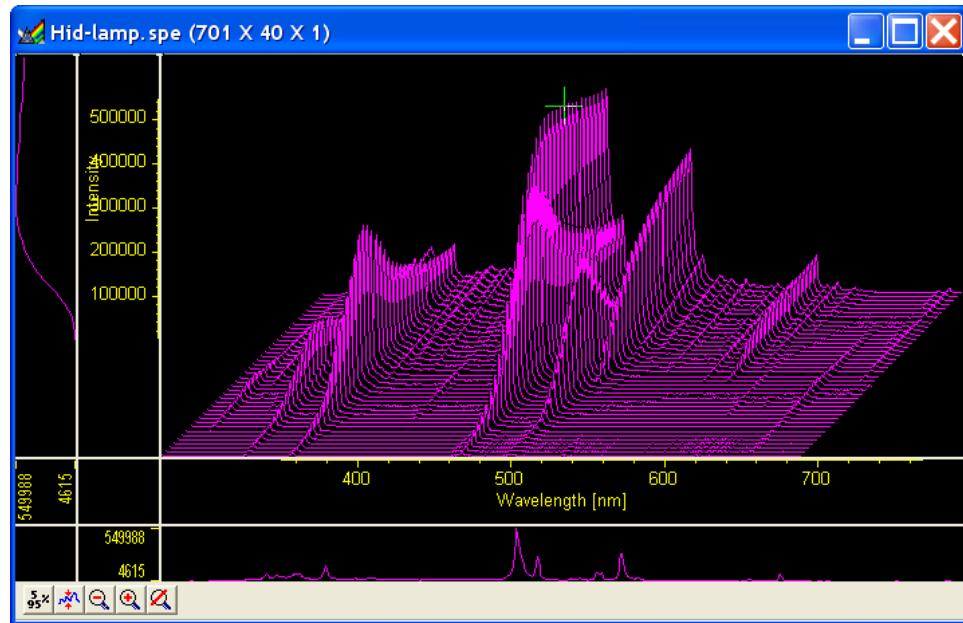

Figure 75. Hid-lamp.spe 3-D Graph
6. Click on **OK**. The **Display Layout** dialog will close and the data display, exclusive of the intensity profiles, should appear as shown in Figure 75. Each strip is displayed as a plot of intensity vs. pixel number. The first strip is at the front and the last strip is at the back. Initially the cursor will be at the lower left. Use the up arrow key to move to a higher numbered strip and the right arrow key to move to a higher numbered pixel on the strip. Then click the **Intensity Autoscale** key to scale the intensity profiles. *Note that clicking the mouse button at different points on the display will change the pixel selection but not the strip.*
8. Note the cross sectional displays in Figure 75. The vertical cross-section profiles the intensity at the same point on each successive strip. The horizontal cross-section profiles the intensity at each point on the same strip. If the large cursor is selected, cursor projections will intersect the cross section to show indicate the cursor position. These projections may not be visually aligned with the cursor position on the main plot. This effect will be particularly noticeable with a long Z axis. Because of perspective effects, the higher numbered strips will be further away and visually smaller. The axes automatically adjust so that they read true for the strip on which the cursor is located. However, because the cross-section profiles expand to use all of the available space, they will not be in alignment visually with the cursor. The profile shapes will be correct, and the point on the profiles intersected by the large cross-hair extensions will accurately indicate the cursor position. Also, the information box will accurately report the pixel number and intensity at the cursor position.